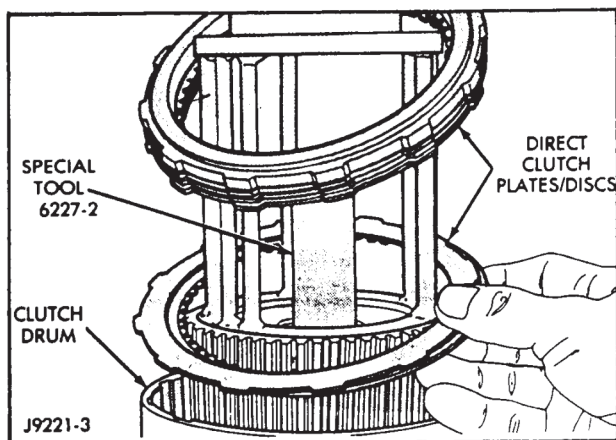

Figure 19
27. Slide direct clutch pack upwards on hub and set clutch pack on edge of compressor tool, as it is shown in Figure 19.
29. Install the direct clutch plates and pressure plate into direct clutch drum, as shown in Figure 19.